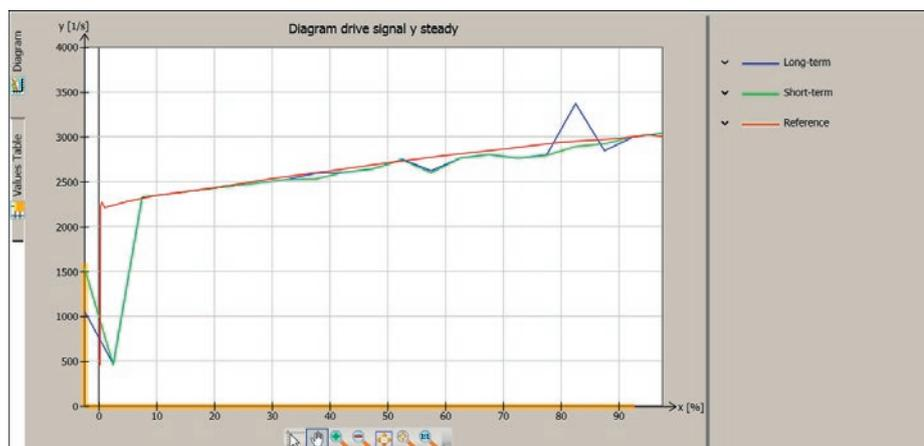

Fig. 3: Drive signal diagram steady-state
2.1.6 Drive signal diagram steady-state (Fig. 3)